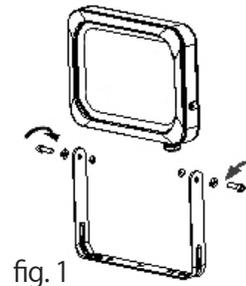
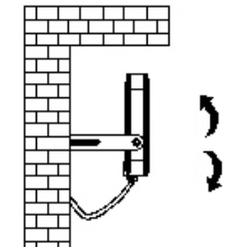

fig. 1
fig. 6
1. Screw out both screws (fig.1) and remove washers and bracket.
5. Fix the spotlight to the bracket with the 2 screws (fig. 1), align the spotlight (fig. 6) and tighten the two screws.